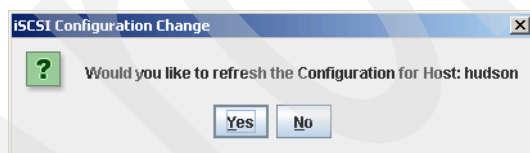

Figure 21-29 SANsurfer - Configuration change
7. After updating the iSCSI HBA BIOS, a refresh of the configuration might be requested. Click **Yes** to refresh the configuration, as shown in Figure 21-29.